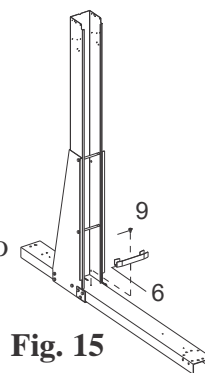

Fig. 15
E) Once all of the 5" long bolts have been tightened, install the straight side bottom connectors. This is done by placing the connector on top of the strap end channel just inside the straight side upright. The hole in the connector should line up with the hole in the strap end channel. Secure the connector to the channel using a single # 12 x 3/4" self-tapping screw for each as shown in Fig.15.